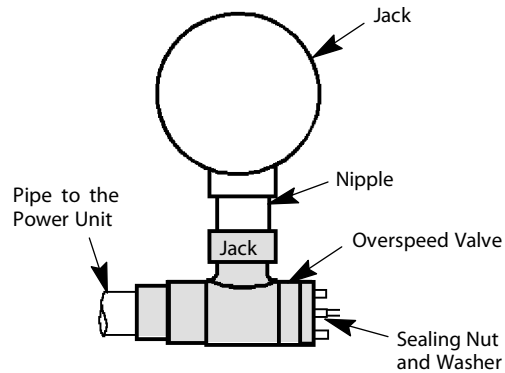
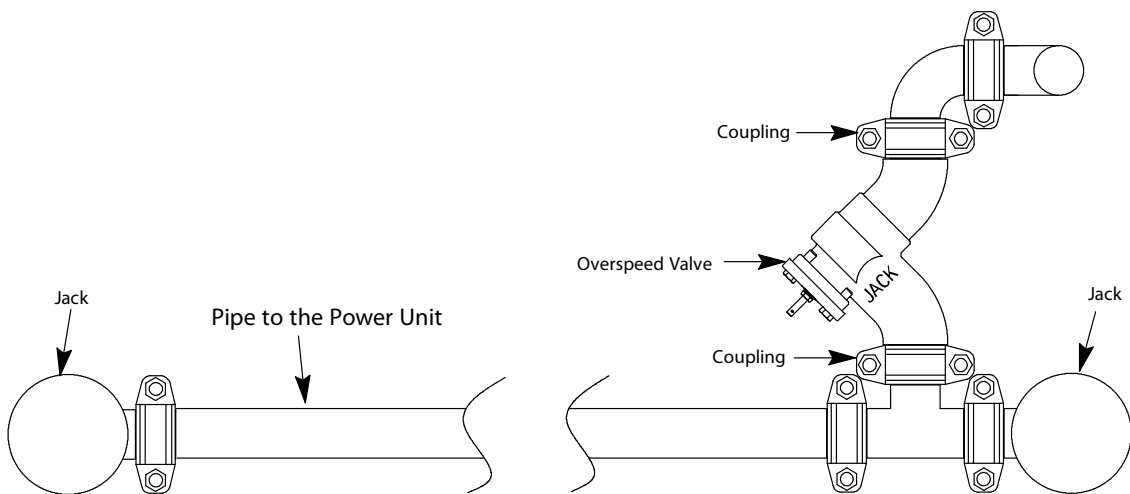

Figure 1 - 90° Overspeed Valve
Figure 2 - 3" Dual Jack Overspeed In-Line Valve Installation
1. Install the valve within 12 inches of the jack(s) or the tee connecting multiple jacks. See Figure 1 or Figure 2 for proper orientation of the valve.